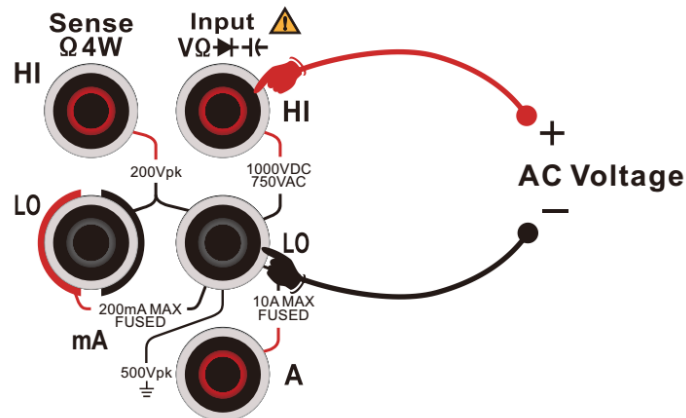

Figure 2-15 Measuring Connection of AC Voltage
2. As shown in Figure 2-15, connect the test leads to the voltage to be measured, the red test lead to the "HI" terminal of the input jack and the black test lead to the "LO" terminal of the input jack.